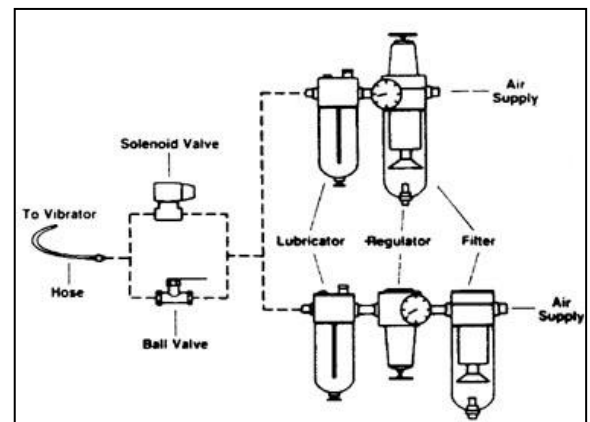

Figure 1
1. Install air control package (Figure 1)